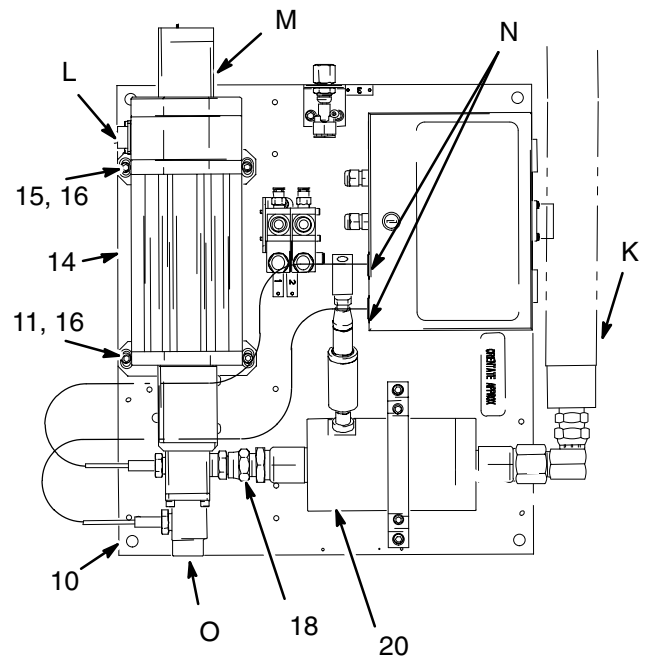

Fig. 13
- metering valve (14) (Fig. 13)
2. Tighten the swivel fitting (18) to the metering valve material inlet.
3. Place the curved bracket (22) over the flow meter, then tighten the two screws (12) to hold the bracket and flow meter in place.
4. Check that the flow meter (20) and regulator (14) are still aligned.
5. Connect the material hose (K).
6. Connect the flow meter cable (J).
7. Disconnect the motor power cable from the metering valve connector (L). See Fig. 13.
8. Disconnect the pressure sensor cables from the junction box connectors (N).
9. Disconnect the closer air line from the closer air inlet (M).
10. Disconnect the material line from the metering valve material outlet (O).
11. Disconnect the swivel fitting (18) from the metering valve.
12. Remove the screws (16), from the rear metering valve bracket (15).
13. Remove the screws (16), from the front metering valve bracket (11).
14. The metering valve (14) weighs approximately 18 lbs. (8.16 kg). Carefully lift it off the mounting plate (10).